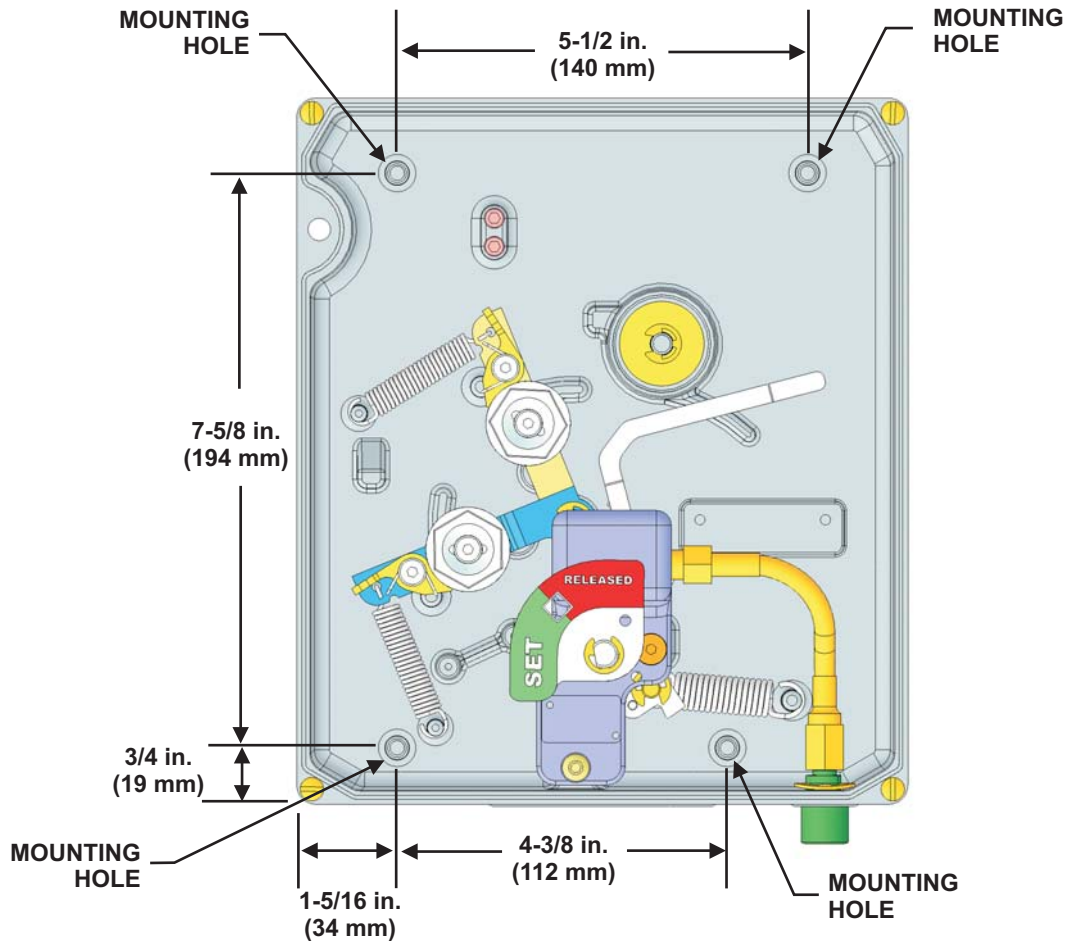

Figure 4-10. Location of Mounting Holes (Housing)
1. With the XV Control System cover removed, lay the box on its back. Locate the four mounting holes in the housing. Position the box so that the mounting holes are not flat on the work surface and break out the knockouts. See Figure 4-10 for location of mounting holes.